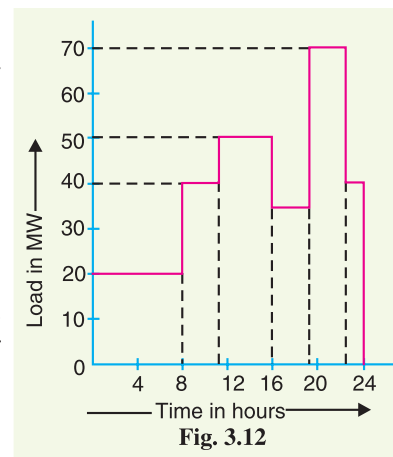

Fig. 3.12
**Solution.** The load curve of the power station can be drawn to some suitable scale as shown in Fig. 3.12.
**Operational schedule.** Referring to the load curve shown in Fig. 3.12, the operational schedule will be as under :